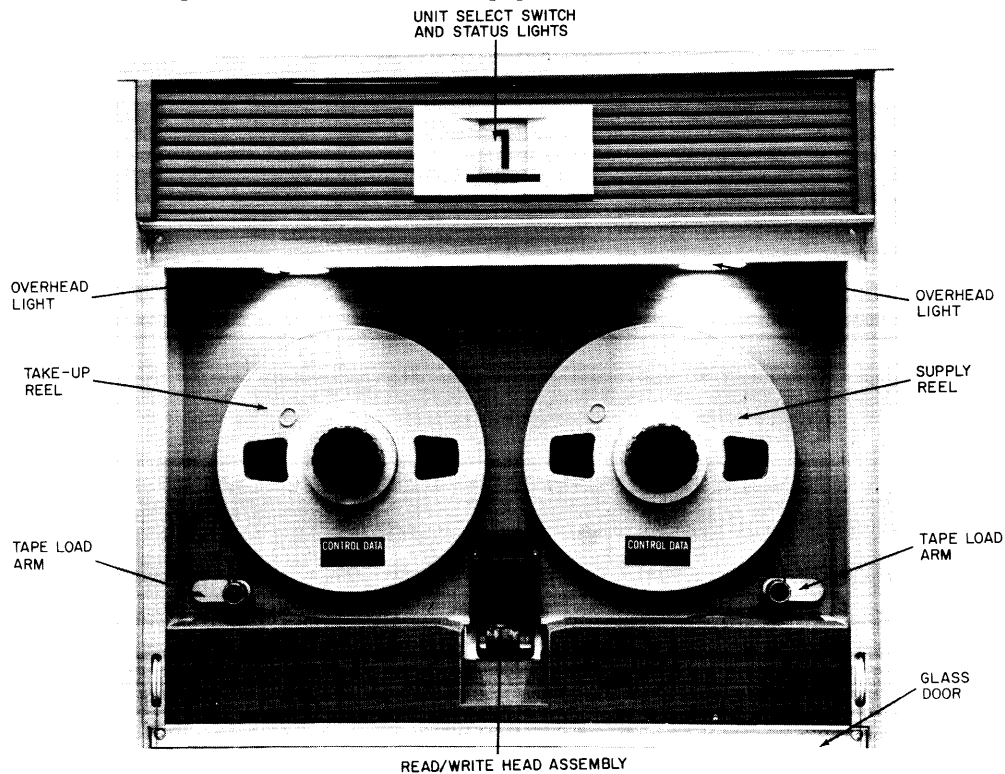

Figure 6. Tape Load and Unload Mechanics
- 1) Slide front glass door down to lowest position (Figure 6).